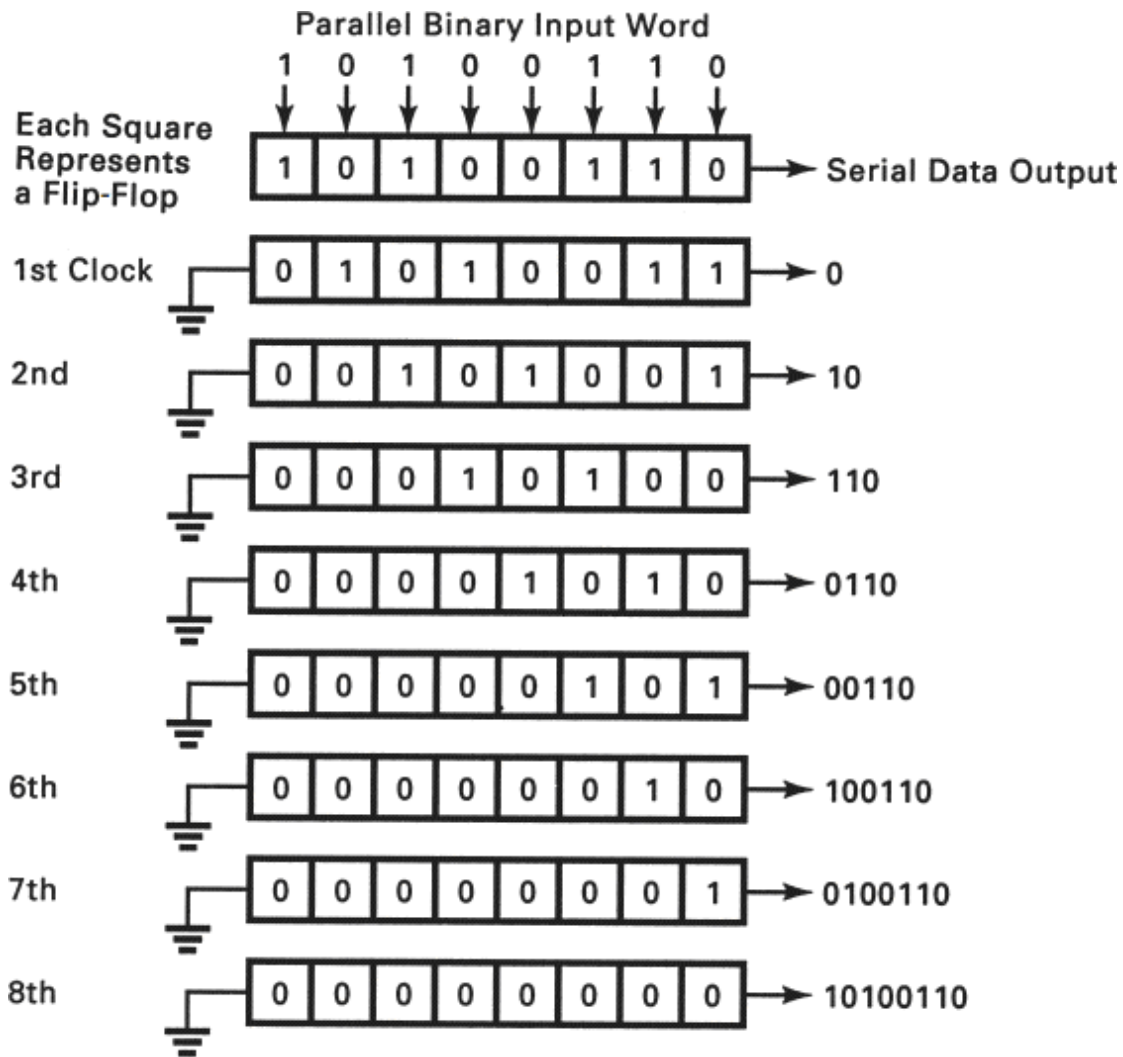
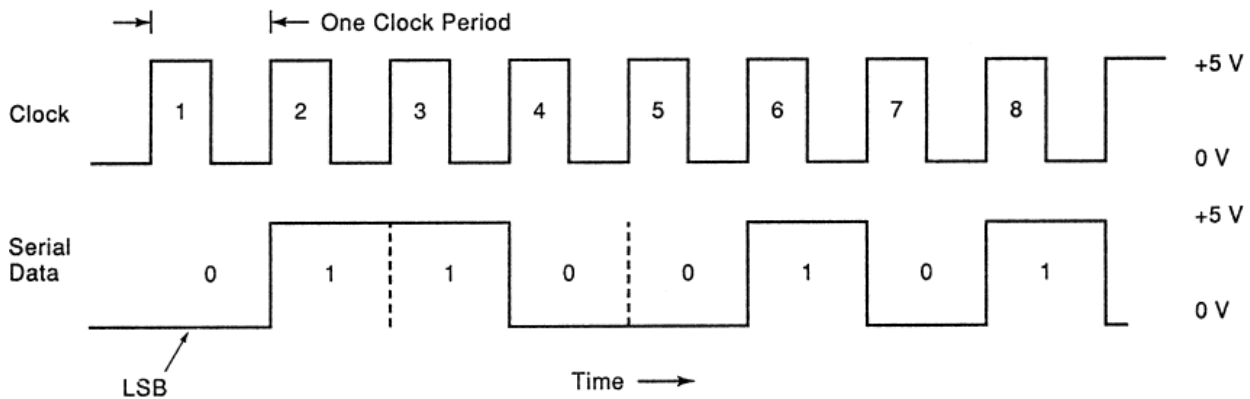

Fig. 10-1 Shift register used for parallel-to-serial data conversion.
Fig. 10-2 The serial binary waveform.
The process of parallel-to-serial conversion is illustrated in Fig. 10-1. An 8-bit parallel binary number is loaded into the flip-flops of an 8-bit shift register, and then clock pulses are applied to all flip-flops simultaneously. When the first clock pulse occurs, all of the bits in the binary number are shifted one position to the right. The bit in the right-hand flip-flop is shifted out. That bit is then applied to some other circuit or transmitted over the communications channel. An example is the modulator in a modem for transmission over telephone lines.
If you were to observe the serial data output of the shift register of Fig. 10-1, you would see a signal like that shown in Fig. 10-2. The upper waveform is the clock, a series of periodic pulses. The clock
pulses are numbered to correspond to the clock signals designated in Fig. 10-1.
The serial data shows the voltage waveform at the output page 89 of the right-hand flip-flop in the shift register. After the first positive-going transition of clock pulse 1, a binary 0 output appears. When the second positive-going transition of clock pulse 2 occurs, a binary 1 appears at the output. Note the sequence of the bits in Fig. 10-2 and compare it to the sequence of the bits in Fig. 10-1. They appear to be reversed. The reason is that an oscilloscope displays voltage levels with respect to time, with time proceeding from left to right. You will see the binary data displayed from left to right on the screen as it is shifted out.
For example, when ASCII data is transmitted, the LSB is usually transmitted first. Recall that the ASCII system represents letters of the alphabet, numbers, punctuation symbols, and other characters as 7-bit binary numbers. The serial word in Fig. 10-2 might represent the ASCII 0100110. The LSB in that case would be the zero at the left-hand side of the waveform. The eighth bit, which is a binary 1, will
usually represent a parity bit. The ASCII number in Fig. 10-2, 0100110, therefore represents the ampersand (&). The eighth or parity bit being a binary 1 means that an even-parity system is used because there are an even number (4) of binary 1s in the total transmitted value. Note in Fig. 10-2 that, since the LSB is transmitted first, it appears on the left because it occurs earlier in time than the other bits.
7. Draw a diagram similar to the one in Fig. 10-1 that illustrates how a serial binary data word is captured by shifting it into a shift register. Illustrate the process in the same number of steps to show how serial-to-parallel data transfer occurs. Use the ASCII code for the letter M with odd parity.